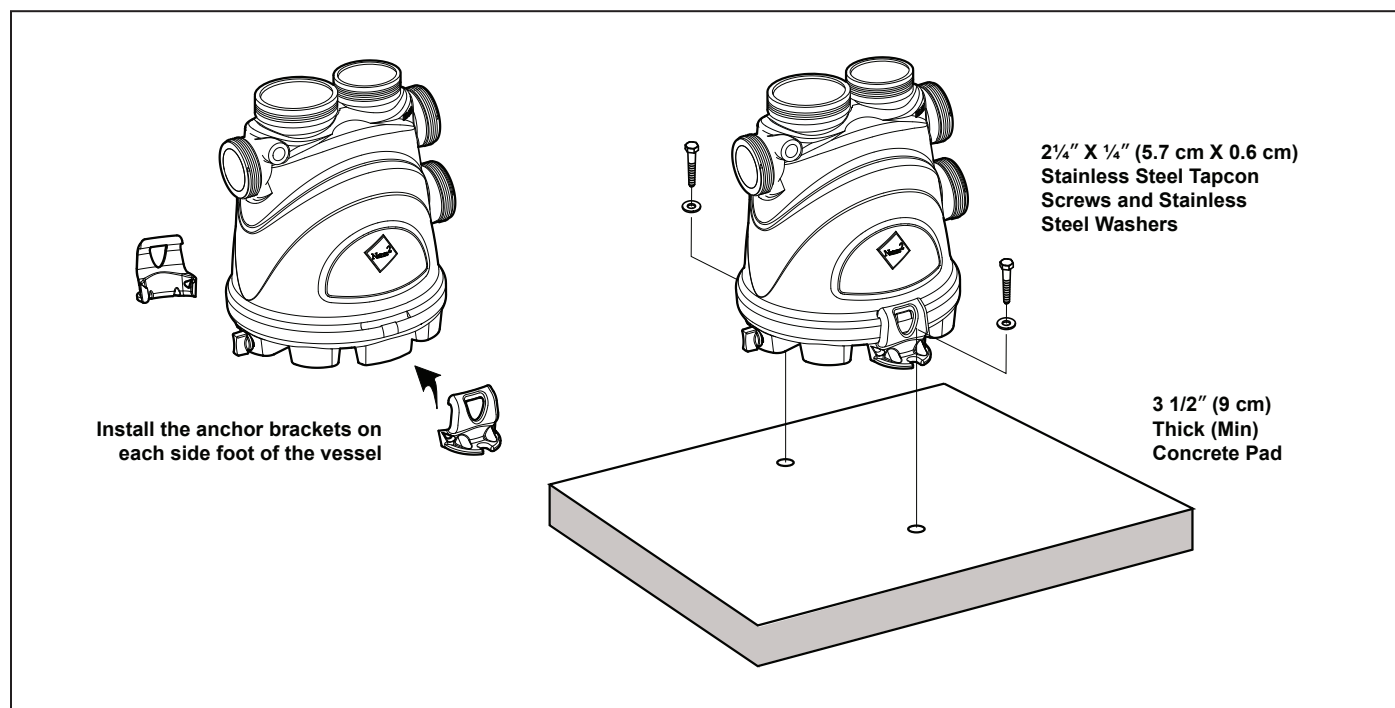

Figure 2. Anchor Bracket Installation
1. Manually snap on the two (2) clip-type anchor brackets onto the side feet of the vessel as shown in Figure 2. Make sure these anchor brackets are attached firmly to the feet of the vessel.
3. Drill a 5/32" (0.5 cm) hole in the concrete at each of the two (2) hole locations of the anchor brackets. The correct size concrete drill bit should be obtained when the concrete screws are purchased.
4. Install the Tapcon screws and washers into each of the two (2) holes to secure the vessel to the equipment pad. Do not over-torque the screws.